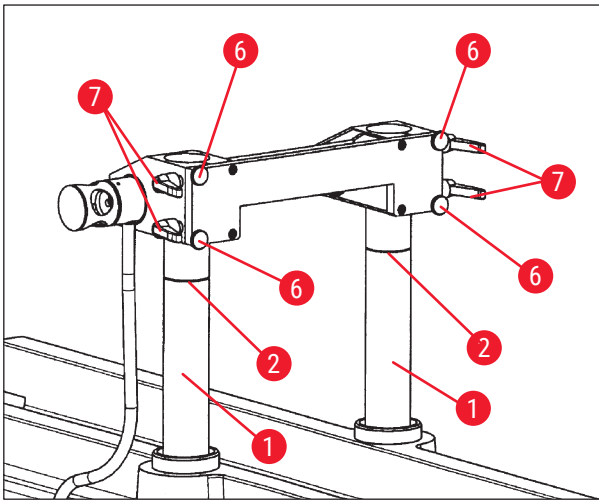

Fig. 85
- Position the knife holder with the upper edge for the groove (→ Fig. 83-2) in the support columns in the 100 mm position or all the way at the top for the 200 mm position, see (→ Fig. 85).
- Position the knife holder with the upper edge at the very top on the columns for the 200 mm position (→ Fig. 85).
- This requires putting the support columns back into the highest position (→ Fig. 85) and adjusting the knife holder to the 100 mm position as described in Chapter (→ p. 75 – 7.10.3 Knife holder height adjustment).